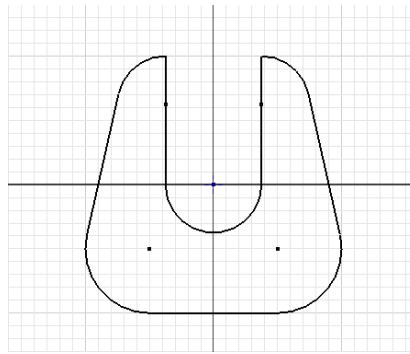

Figure 3-60 The sketch after applying all constraints
10. Select the center point of arc 6; the entire sketch moves to make the origin coincident with the center point of the arc. The sketch after applying all constraints is shown in Figure 3-60.